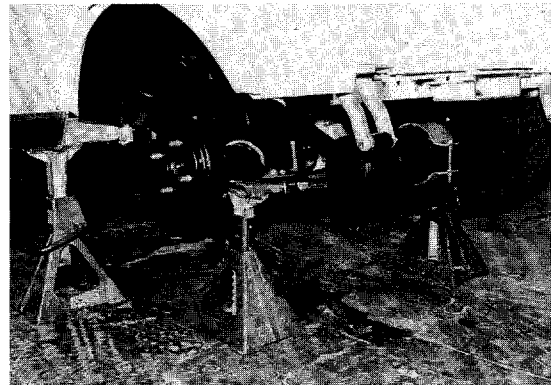
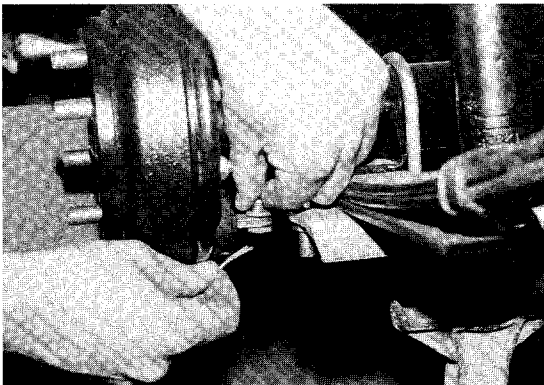

Figure 12-23
Figure 12-24
3. Place jack stands at each rear side of inner frame (**Figure 12-23**).
5. Remove bolt (12) and nut (2) from lower rear spring shackle (1).
6. Remove cotter pin at brake lever/cable connection, remove clevis from brake lever, pull clevis away from lever (**Figure 12-24**).
7. Remove upper nut (5), washer and rubber bushing (6) from shock absorber.
8. Remove nuts (11) and lockwashers (10) from U-bolt (8) at retainer plate.